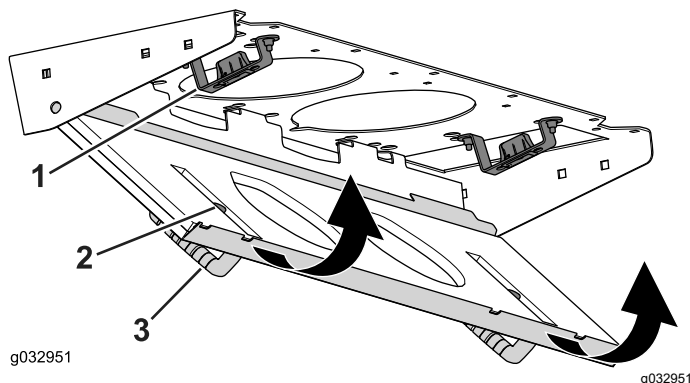

Figure 116
4. Rotate the filter screen around the tabs until the latch locks into the latch-mount assembly (Figure 116).